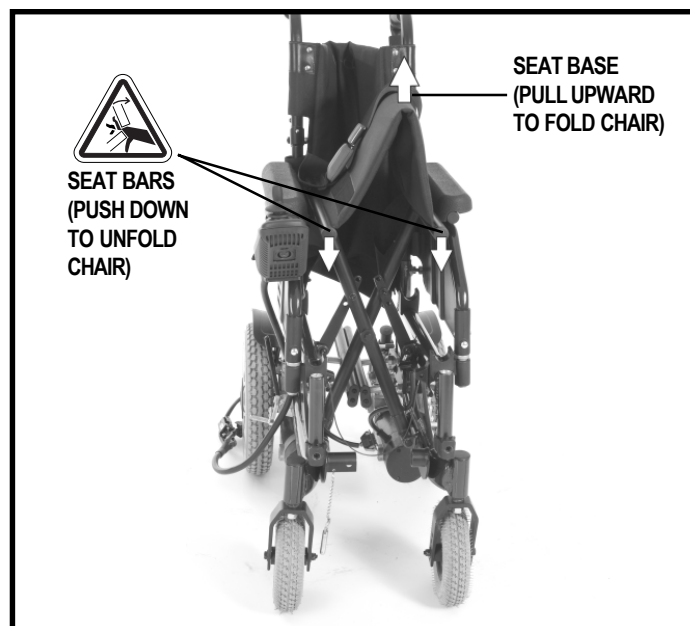

Figure 23. Luxor Folded (Shown with Seatback Unfolded)
9. Grasp the seat base and pull upward to fold the chair. See figure 23.